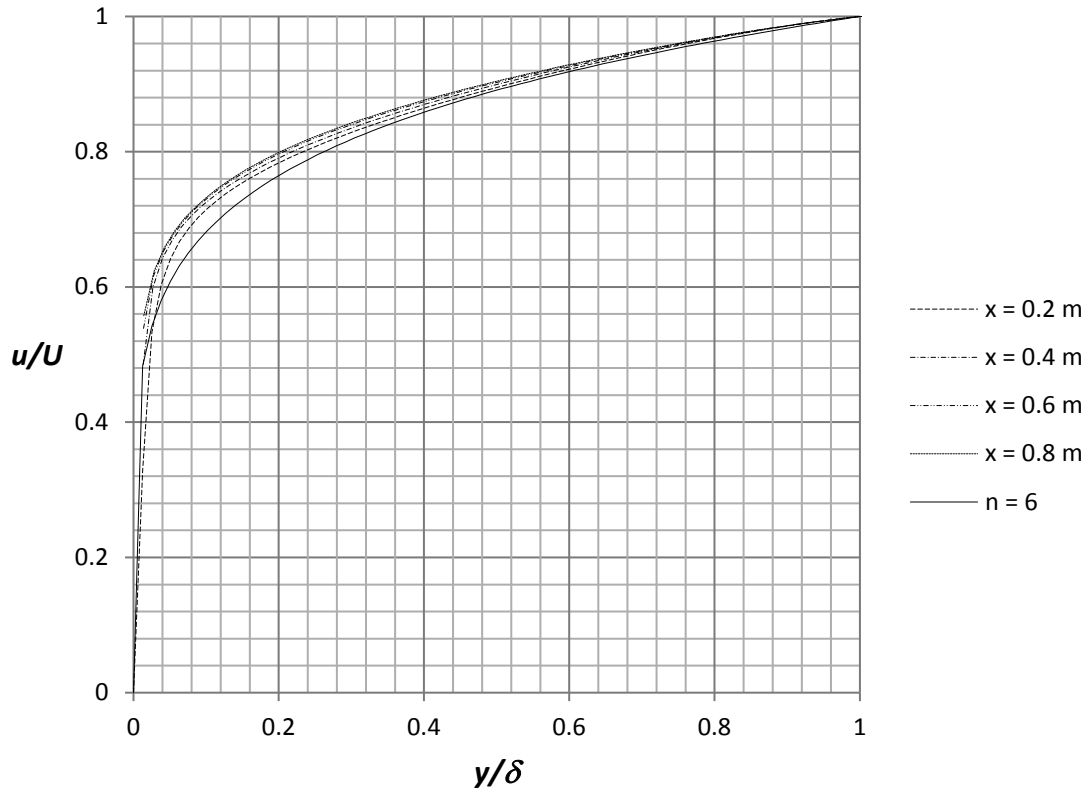

Figure 2.31 Velocity profiles compared with 1/6 power law for turbulent profile
30. Place the file “**graph 2.31**” on the desktop. Repeat step 24 and choose the sketch  $x = 0.2, 0.4, 0.6, 0.8$  m and check the box for **Velocity (X)**. Rename the xy-plot to **Comparison with One-Sixth Power Law**. An Excel file will open with Figure 2.31. In figure 2.31 we compare the results from Flow Simulation with the turbulent profile for  $n = 6$ . The power-law turbulent profiles suggested by Prandtl are given by